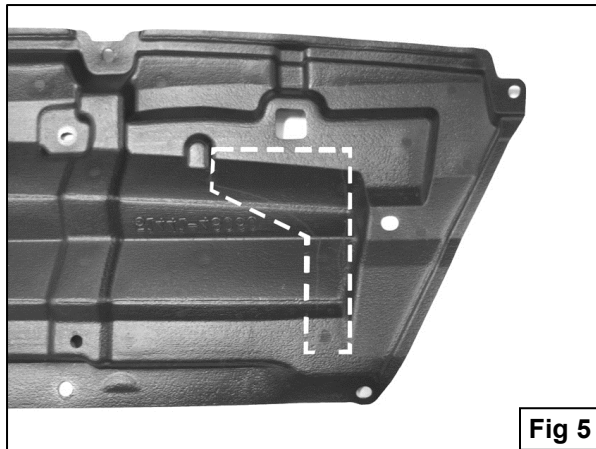

Fig 5
7. Once you have partially mounted driver and passenger side Brackets. Position factory plastic rocker guard back to its mounting location and trace the outside on the Mounting Bracket and the mounting location of the Bolt Plates. Use a sharp knife to cut out the trace area for the Mounting Brackets and use a drill with a 1/2" drill bit to drill out the mounting location for the Bolt Plates on both sides (**Figure 5**).